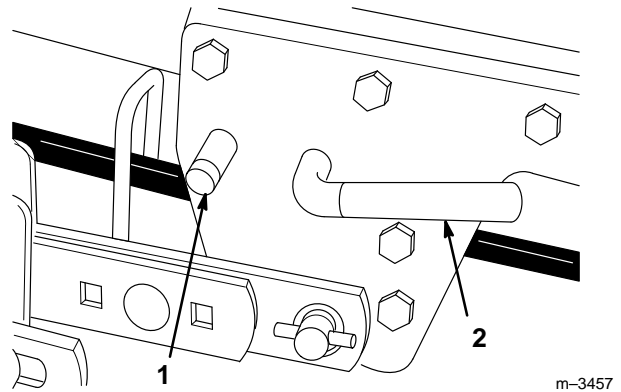

Figure 22
9. Press the button of the mid Attach-A-Matic™ and twist the lever clockwise to release the mower (Fig. 22).